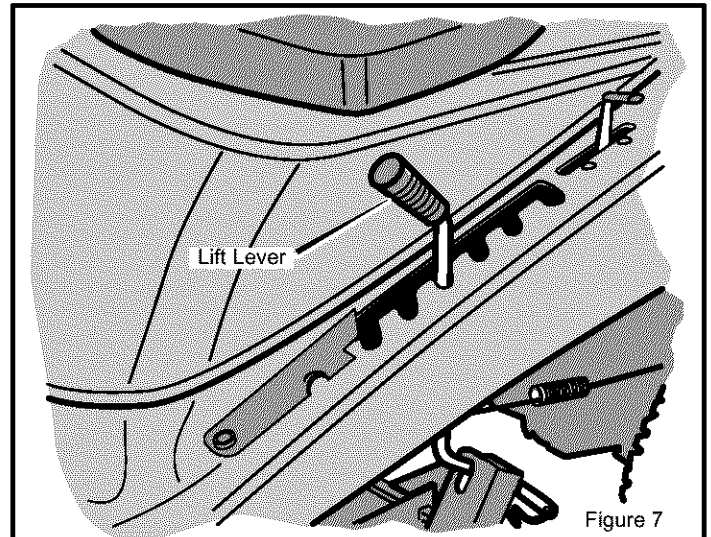

Figure 7
1. Move the **lift lever** forward to lower the mower housing and back to raise the mower housing (Figure 7).